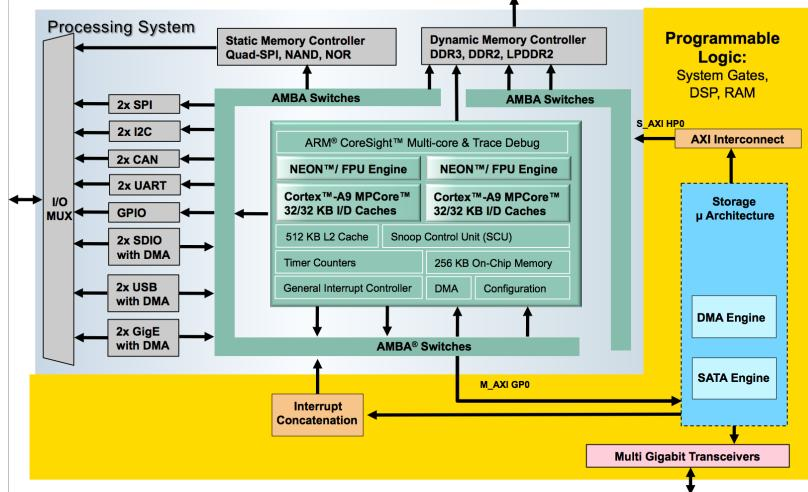

Figure 5: Zynq SSE System Architecture
The system architecture diagram in Figure 5 gives an overview of the Zynq SSE reference design: Within the Zynq Programmable Logic (PL) the MLE Storage Micro-Architecture instantiates the DMA and the SATA Host Controller IP blocks. The storage micro-architecture itself interfaces with the Zynq Processing System (PS) via the AXI Interconnect. The ARM A9 in the PS runs Xilinx PetaLinux and the SATA Linux kernel drivers. Please note that this figure is not to scale and that there is plenty of programmable logic resources left for